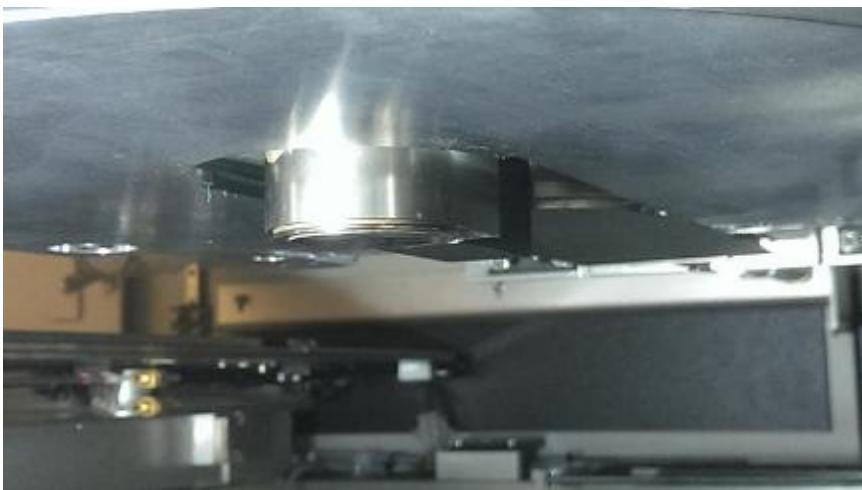

Figure 2 X-ray tube in High mag position
3. Click on “Z-axis position Bit A On” & “Z-axis position Bit B On” to lower down X-Ray tube to high mag position as shown in Figure 2.